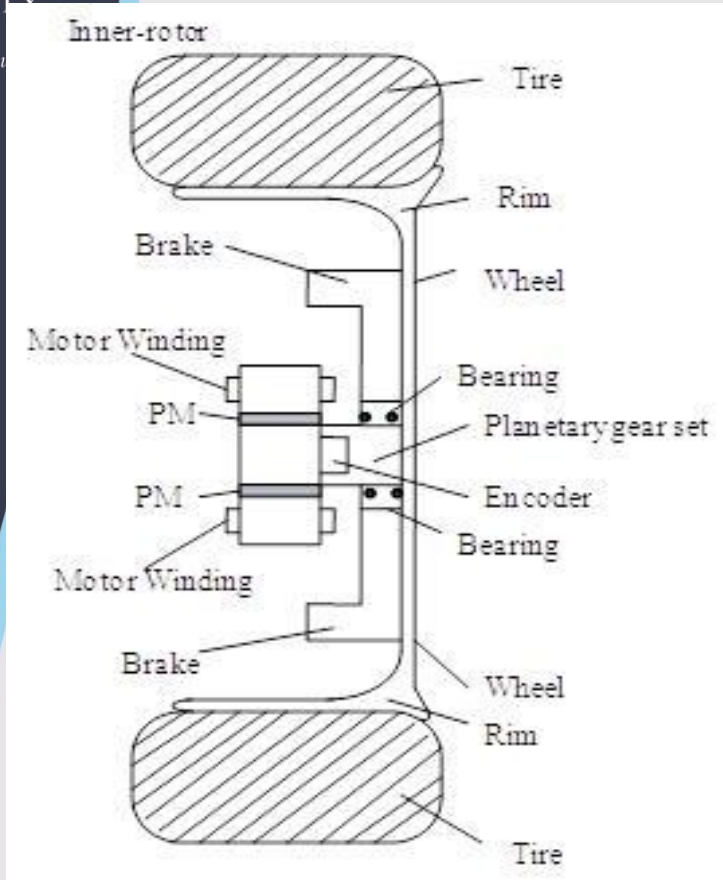

Figure 6a: Inner rotor *In Wheel* drive
- When a high-speed inner-rotor motor is used (**Figure 6a**) then a fixed speed-reduction gear becomes necessary to attain a realistic wheel speed. In general, speed reduction is achieved using a planetary gear set. This planetary gear is mounted between the motor shaft and the wheel rim. Usually this motor is designed to operate up to 1000 rpm so as to give high power density.